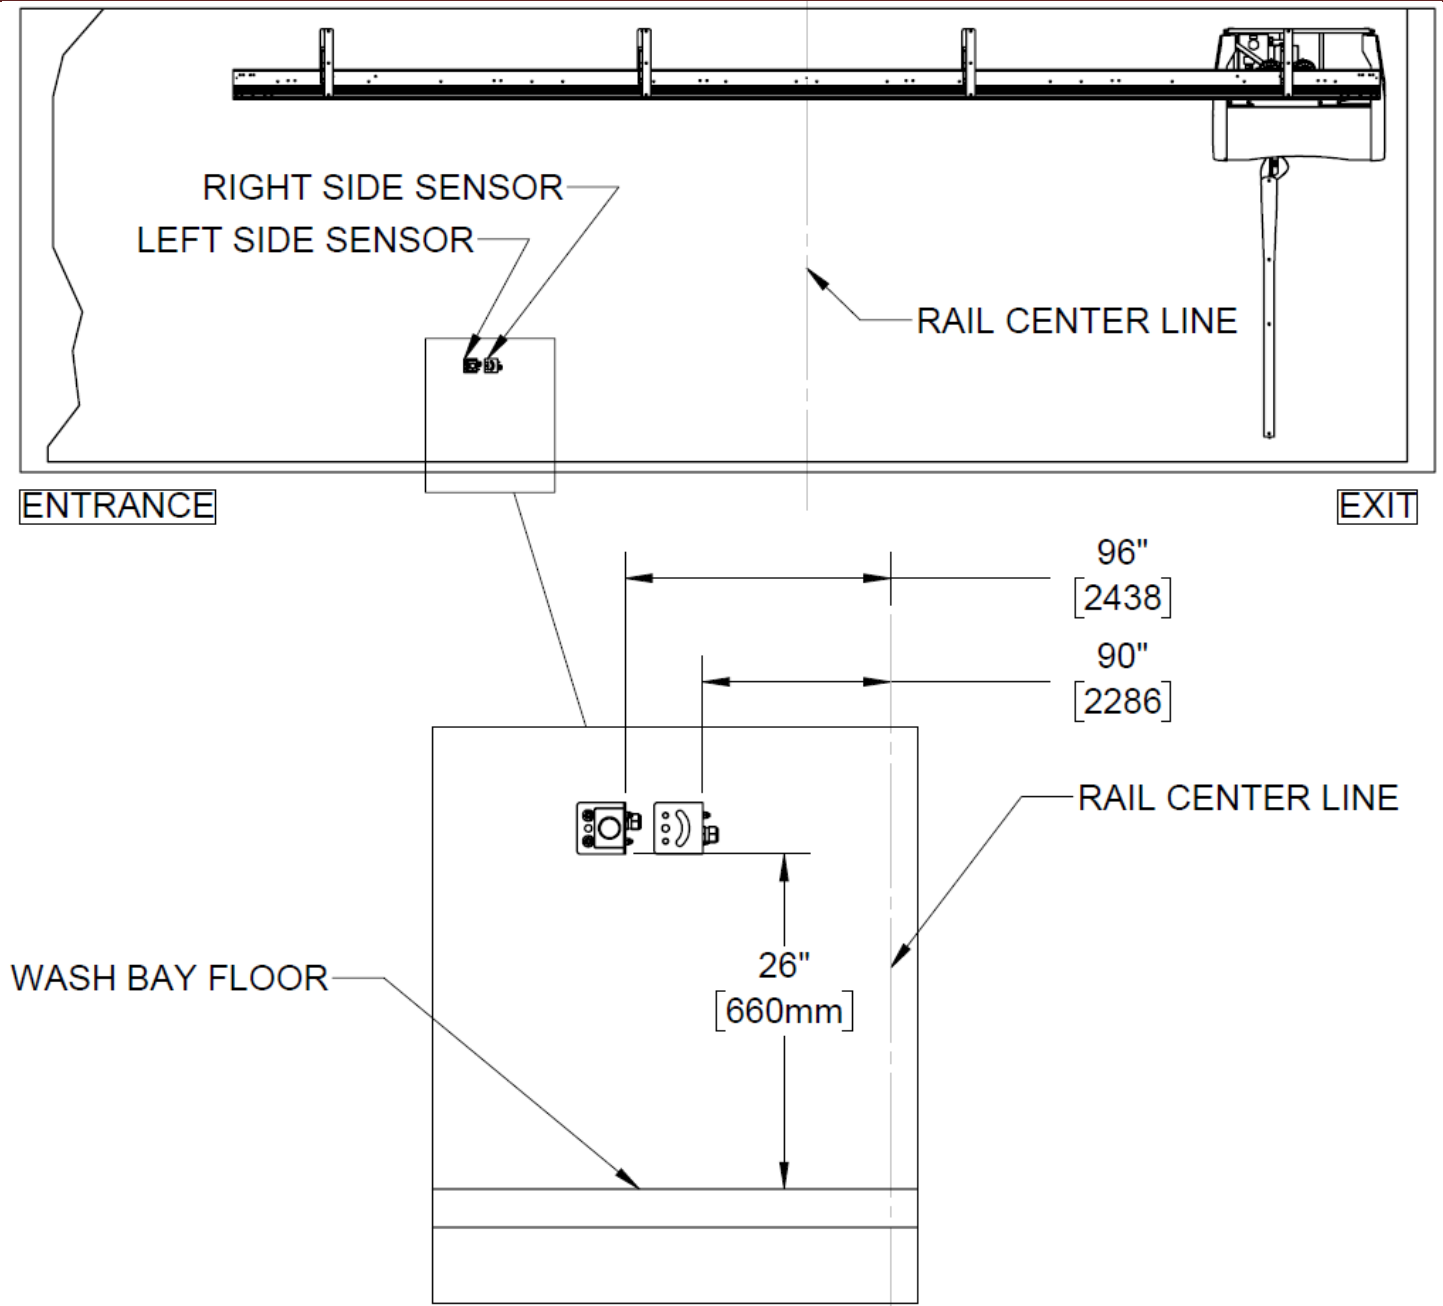

Figure 135 - Side Measurement Ultrasonic Locations
- Wall mounted or stand mounted sensors are installed in the wash bay per the dimensions shown in Figure 135. Regardless if the sensors are wall mounted or stand mounted, the location for mounting uses the same dimensions from the main rail centerline as shown in Figure 135.